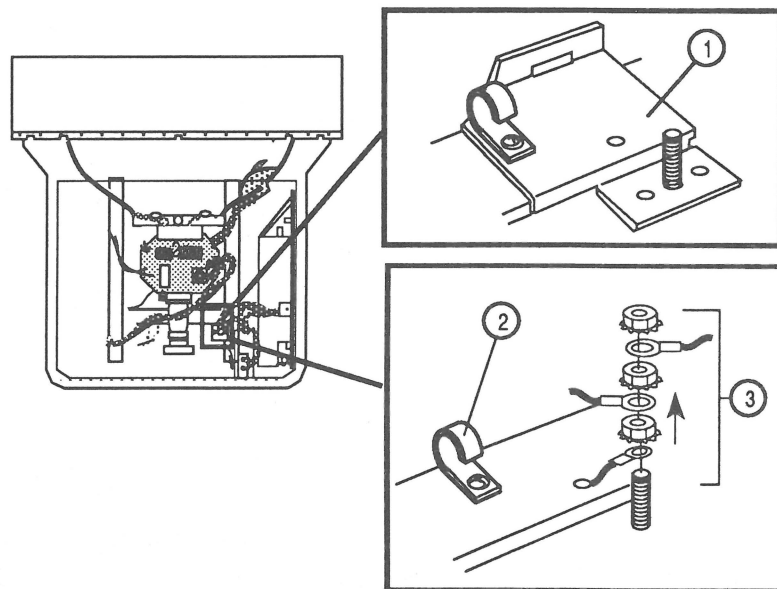

FIGURE 19
3. If the monitor has a metal bleeder resistor bracket (Figure 19, #1) installed on the floor of the monitor, go to step 4.
- a) Remove the plastic clip (Figure 19, #2).
- b) Remove the three green wires and the nuts from the ground stud (Figure 19, #3).